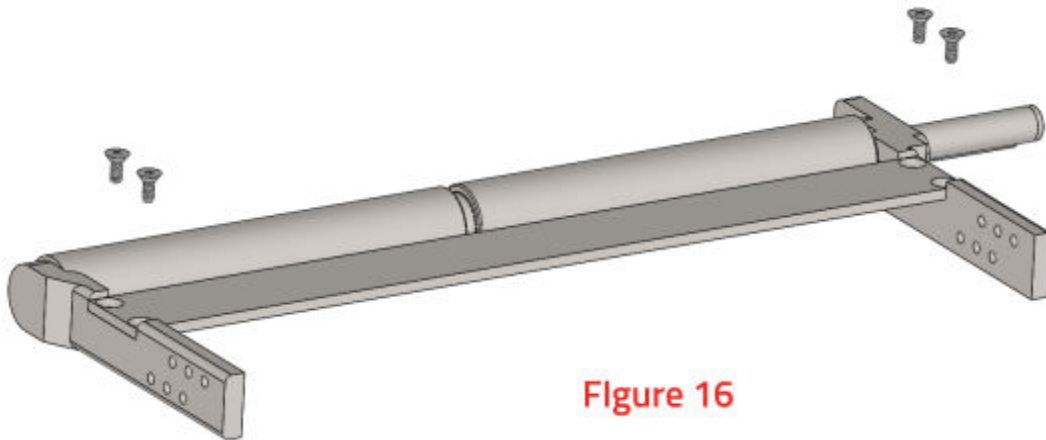

Figure 16
6. Using a 5/32 hex key, remove the 4 screws securing the plate to the two side arms. (See Figure 16)